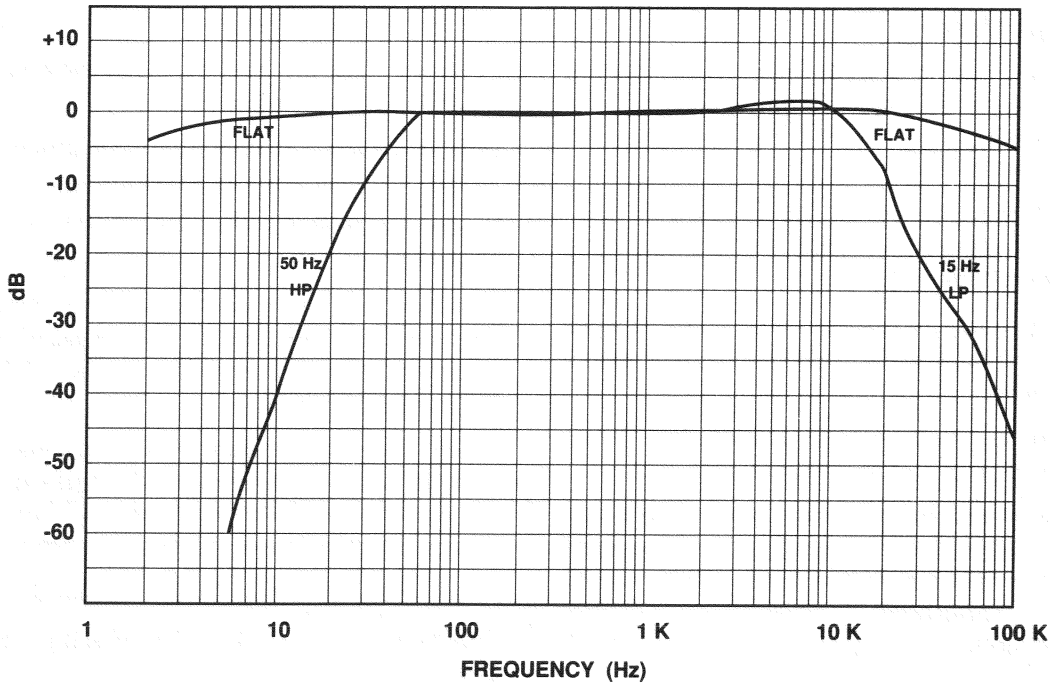

Fig. 8.4 Typical Frequency Response—Balanced Input Module
**Frequency Response:** Flat  $\pm 0.2$  dB, 20 Hz to 20 kHz. See Figure 8.4.